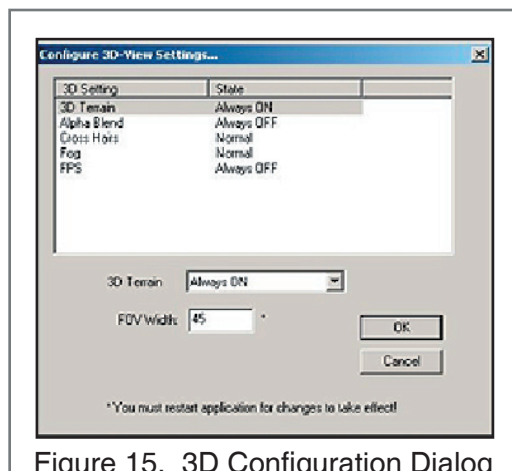

Figure 15. 3D Configuration Dialog
1. Open the Instructor Console (IC) by left clicking on the mortarboard icon () found in the Windows task bar tray typically at the (right side) bottom of the screen. If no icon is present, go to **Start | Programs | SubSkillsNet | Instructor Console**.
3. Select **View | Configure 3D Settings** from the menu bar. Figure 15 illustrates the options that may be selected to optimize system performance of the